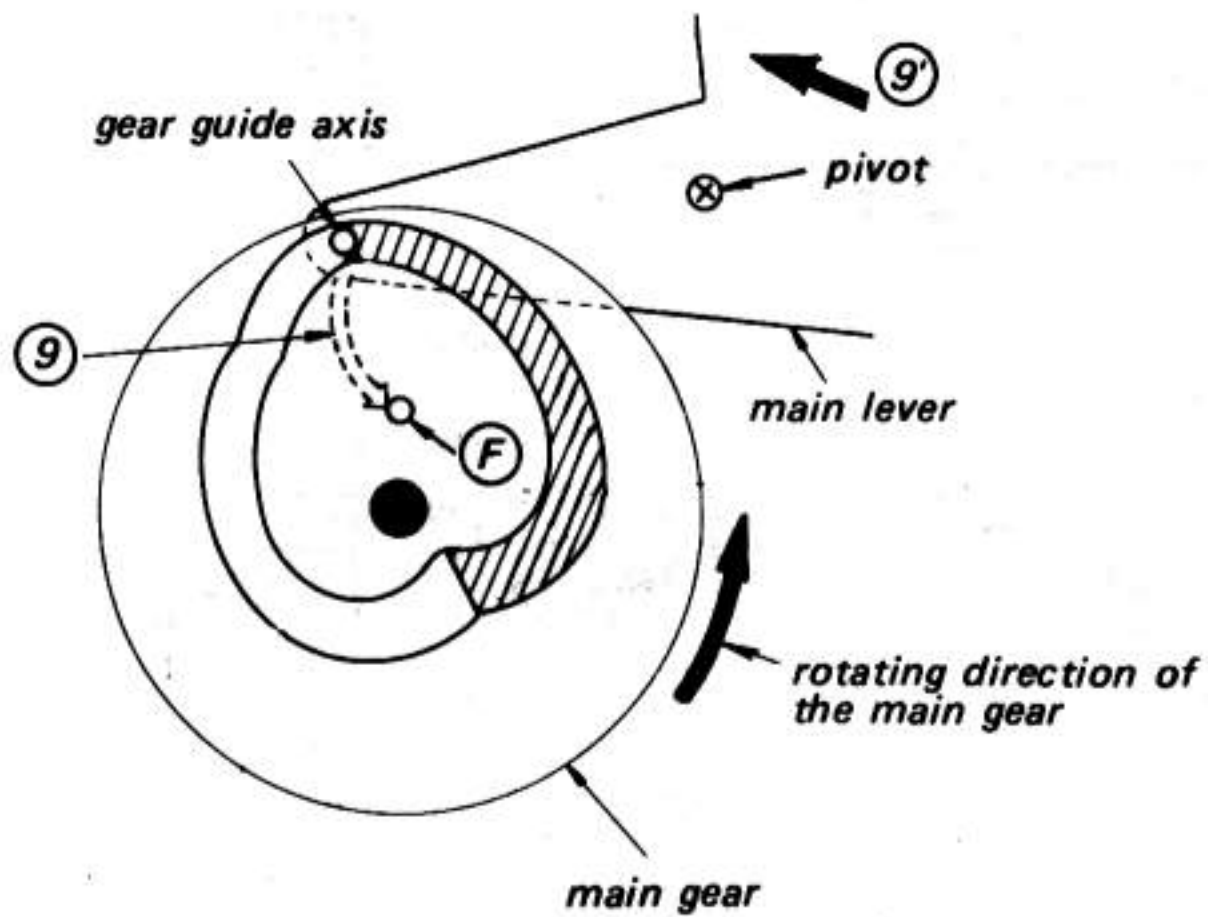

Fig. 1-7.
3. Once the revolving center gear engages the sub-gear (L), the main gear will commence to rotate in the counterclockwise direction due to the driving force supplied by the motor. It will stop again in the position shown in Fig. 1-7.
1. While the record is being played, the main gear and main lever are in the positions as shown in Fig. 1-7.
3. The gear guide axis at the tip of the main lever is moved across to position (F) by following the curved path (9) due to the guiding action
of the shaded portion of the groove in the heart-shaped cam positioned on the main gear. The main lever consequently moves across in the direction of the arrow ⑨ (see Fig. 1-7).